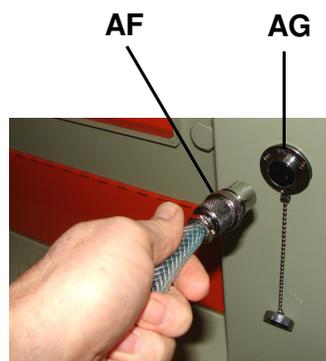

figure 22
- 3) Place sensor plug (**AF**) into the receptacle (**AG**) (see fig. 22)